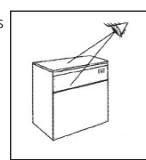

Fig.1.
- 1) Check that ice cuber has not been damaged during transportation (Fig.1).